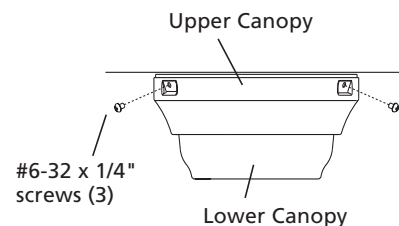

Figure 6b - Attaching Upper Canopy
4. Raise the upper canopy and align the three screw holes in the upper canopy with the three threaded holes in the ceiling plate. Install and tighten the three #6-32 x 1/4" screws as shown in Figure 6b.